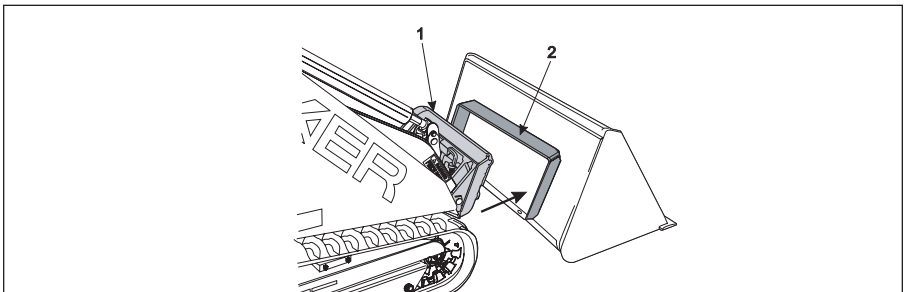

Figure 3-27 Installing a Non-powered Attachment
**NOTE:** Clean the inside lower edge of the female attachment mounting plate (Item 2, Figure 3-27) to remove any debris that might interfere with the attachment installation.
3. Slowly drive towards the attachment and align the top edge of the male mounting plate (Item 1, Figure 3-27) and the upper lip of the female attachment mounting plate (Item 2, Figure 3-27). Slide the upper edge of the male mounting plate into the upper lip of the female attachment mounting plate.